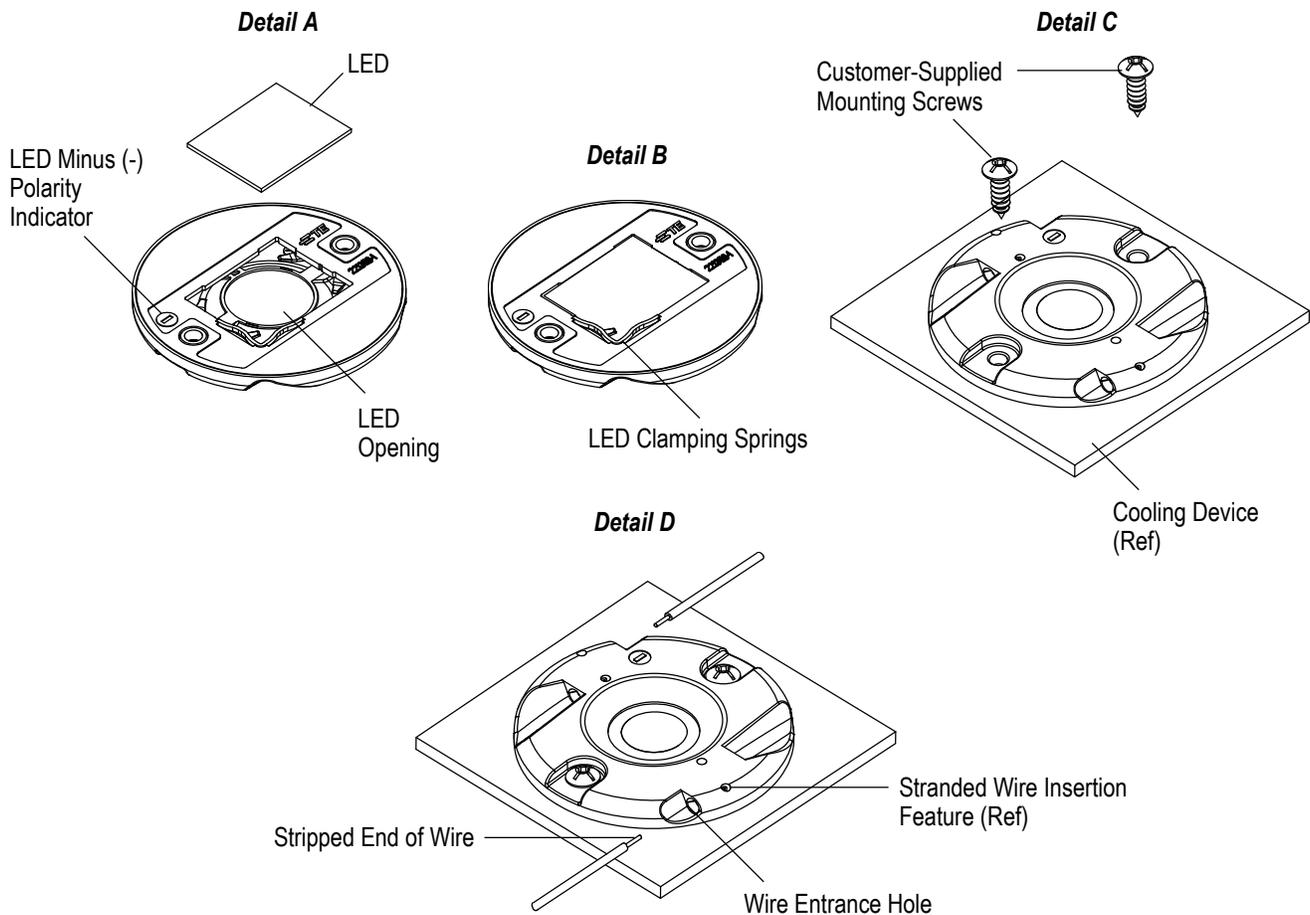

Figure 4
1. The LED must be positioned in the LED opening of the LED holder so that one corner is against the LED clamping springs. The LED minus (-) polarity indicator must be observed when orienting the LED into the LED opening. Then, the LED must be inserted until the LED clamping springs hold it in place. See Figure 4, Details A and B.
2. The LED holder (bottom side) must be placed on the cooling device so that the screws holes align over the holes in the cooling device. The LED holder must be secured to the cooling device using two customer-supplied M2x6-mm (minimum) mounting screws. Each mounting screw should be tightened to a torque between 0.15 and 0.25 Nm [1.33 and 2.21 in.-lb]. See Figure 4, Detail C.
3. The stripped end of each wire must be inserted into a wire entrance hole of the LED holder until it bottoms. See Figure 4, Detail D.